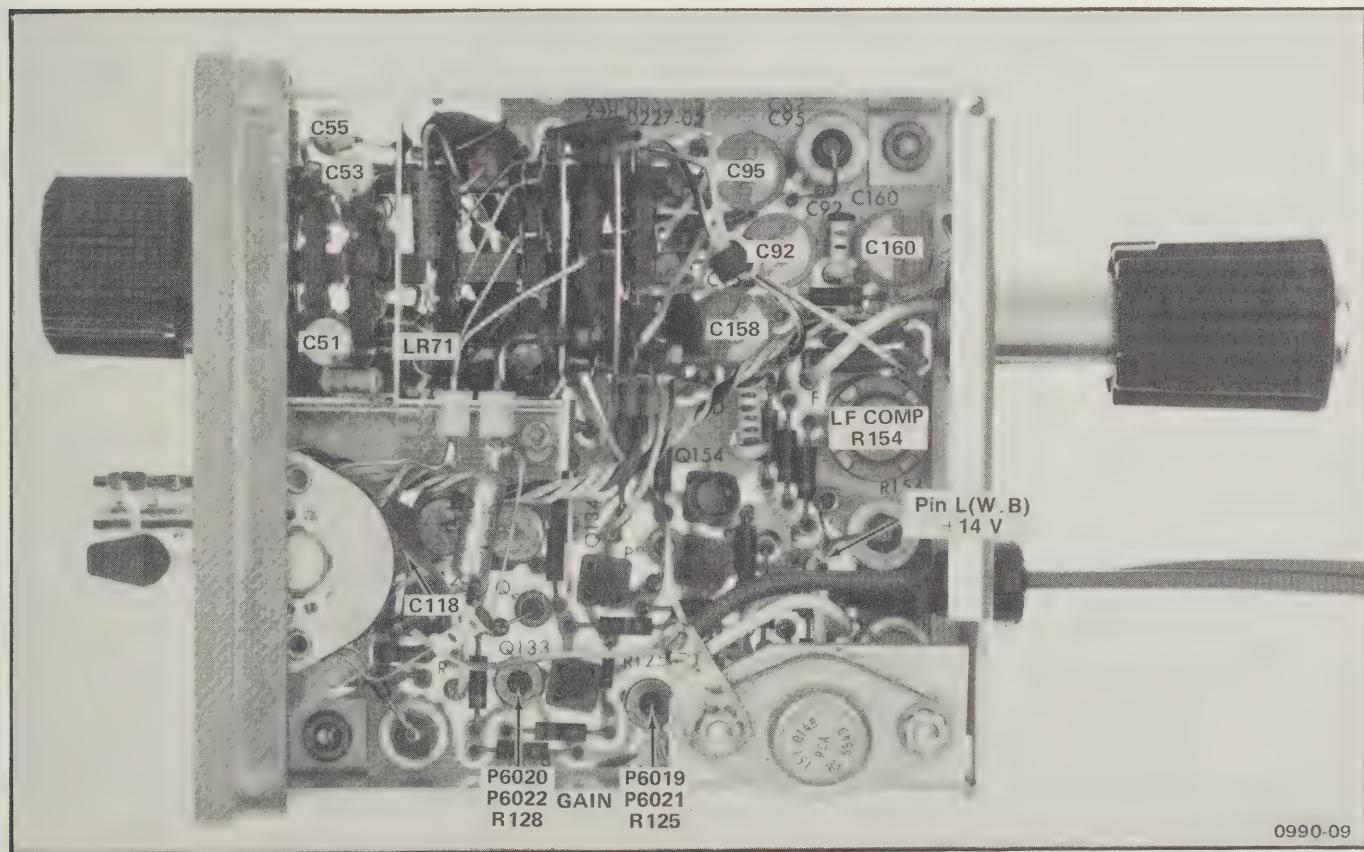

Fig. 5-1. Location of adjustments in Type 134.
overall instrument performance make each adjustment to the exact setting even if the CHECK is within the allowable tolerance. (See Fig. 5-1 for location of adjustments.)
- b. Connect the DC Voltmeter between ground and the emitter of Q107. This point connects to the circuit board at pin L (see Fig. 5-1), near the power input line.